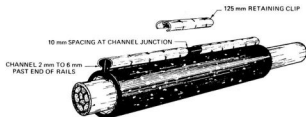

FIG. 4 : JOINTING TWO SHORT LENGTHS OF CHANNEL
- (Viii) To joint two short lengths of channel, fit short channels over rails leaving a 10 mm gap at the center (see Fig. 4). Place a 125 mm Retaining Clip centrally over the gap and snap tightly over the channel with a light tap.